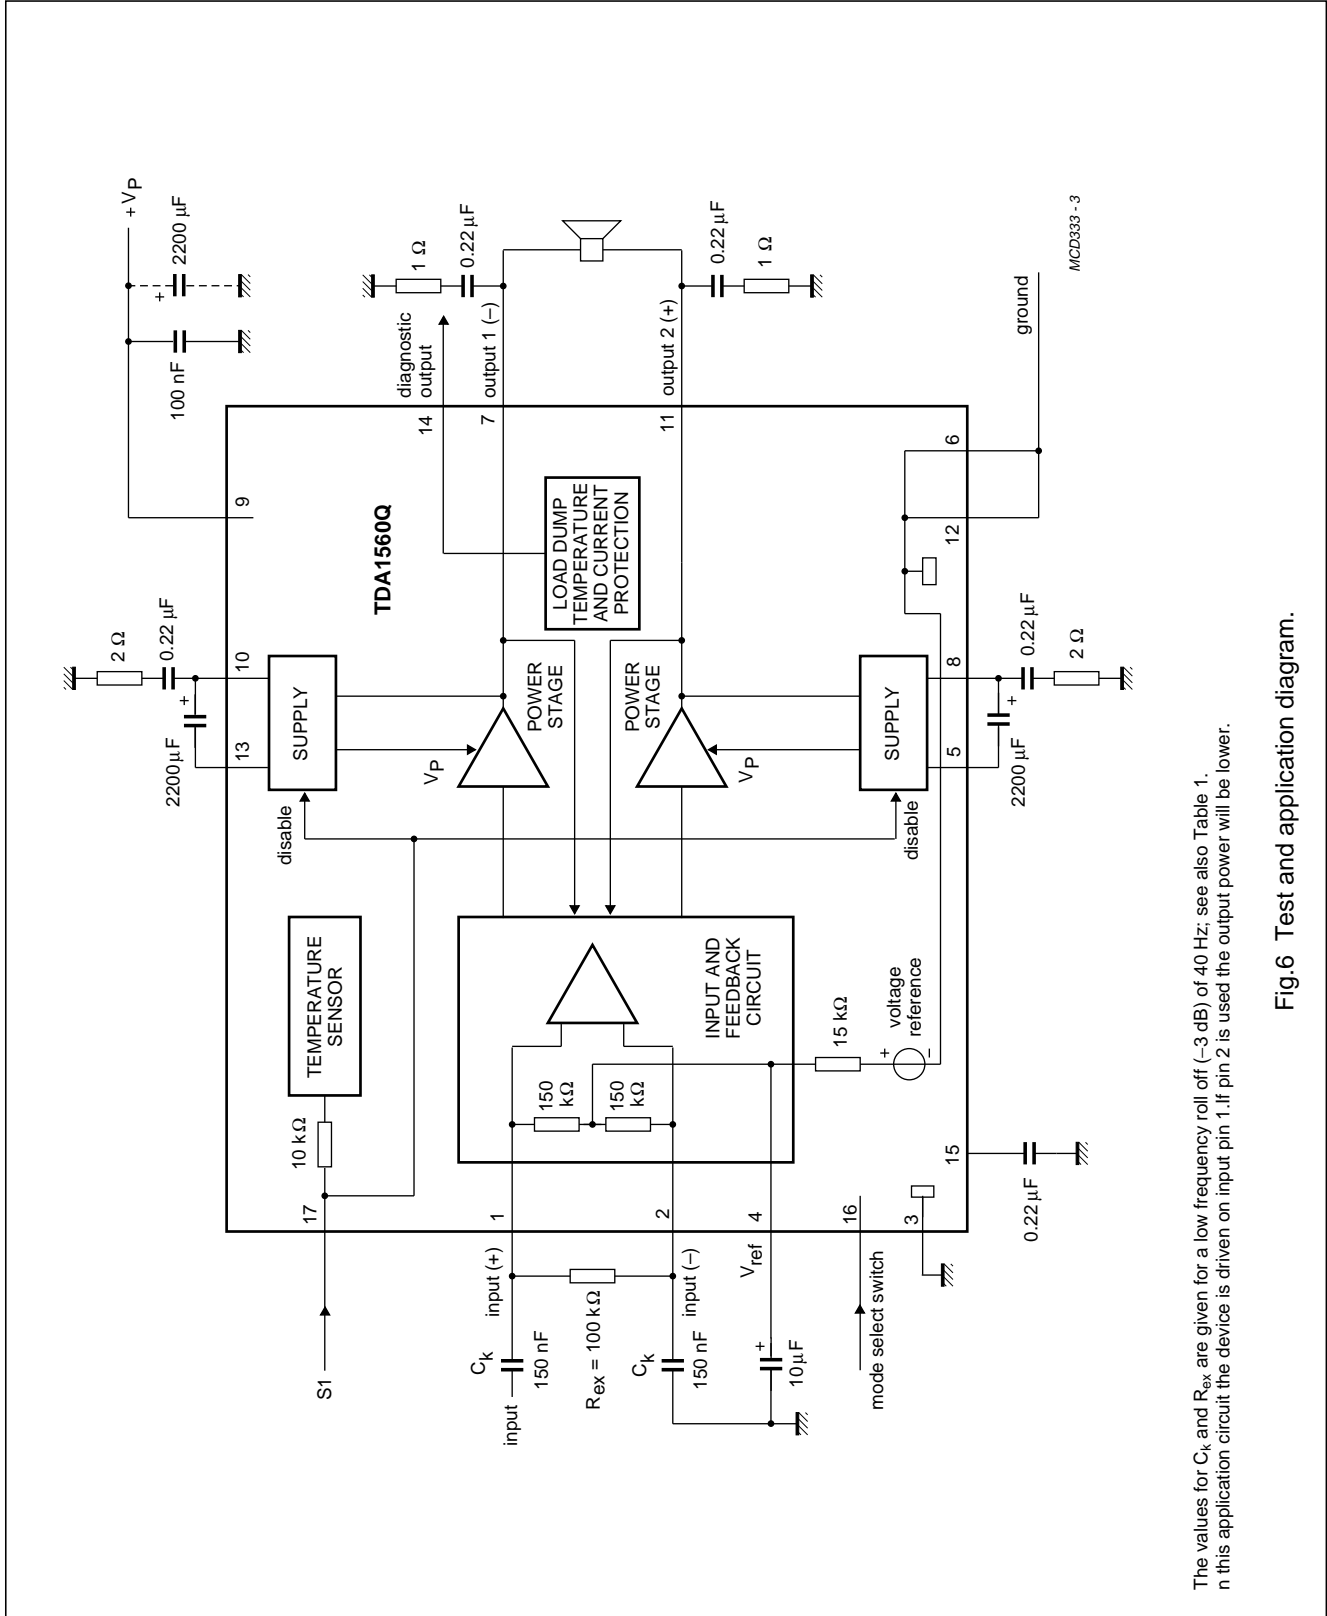

Fig.6 Test and application diagram.
$V_P = 14.4$ V; $R_L = 8$ Ω ; $T_{amb} = 25$ °C and using 4 K/W heatsink; measured in Fig.6; unless otherwise specified.
$V_P = 14.4$ V; $R_L = 8$ Ω ; $f_i = 1$ kHz; $T_{amb} = 25$ °C and using 4 K/W heatsink; measured in Fig.6; unless otherwise specified.
1. With a continuous sine wave input signal the output power is approximately 1 W less than driven with a bursted signal; also depending on the equivalent series resistance of the electrolytic capacitors C1 and C2 (see Fig.6) and the resistance of the connections between pins 5, 8, 10 and 13 and C1, C2.